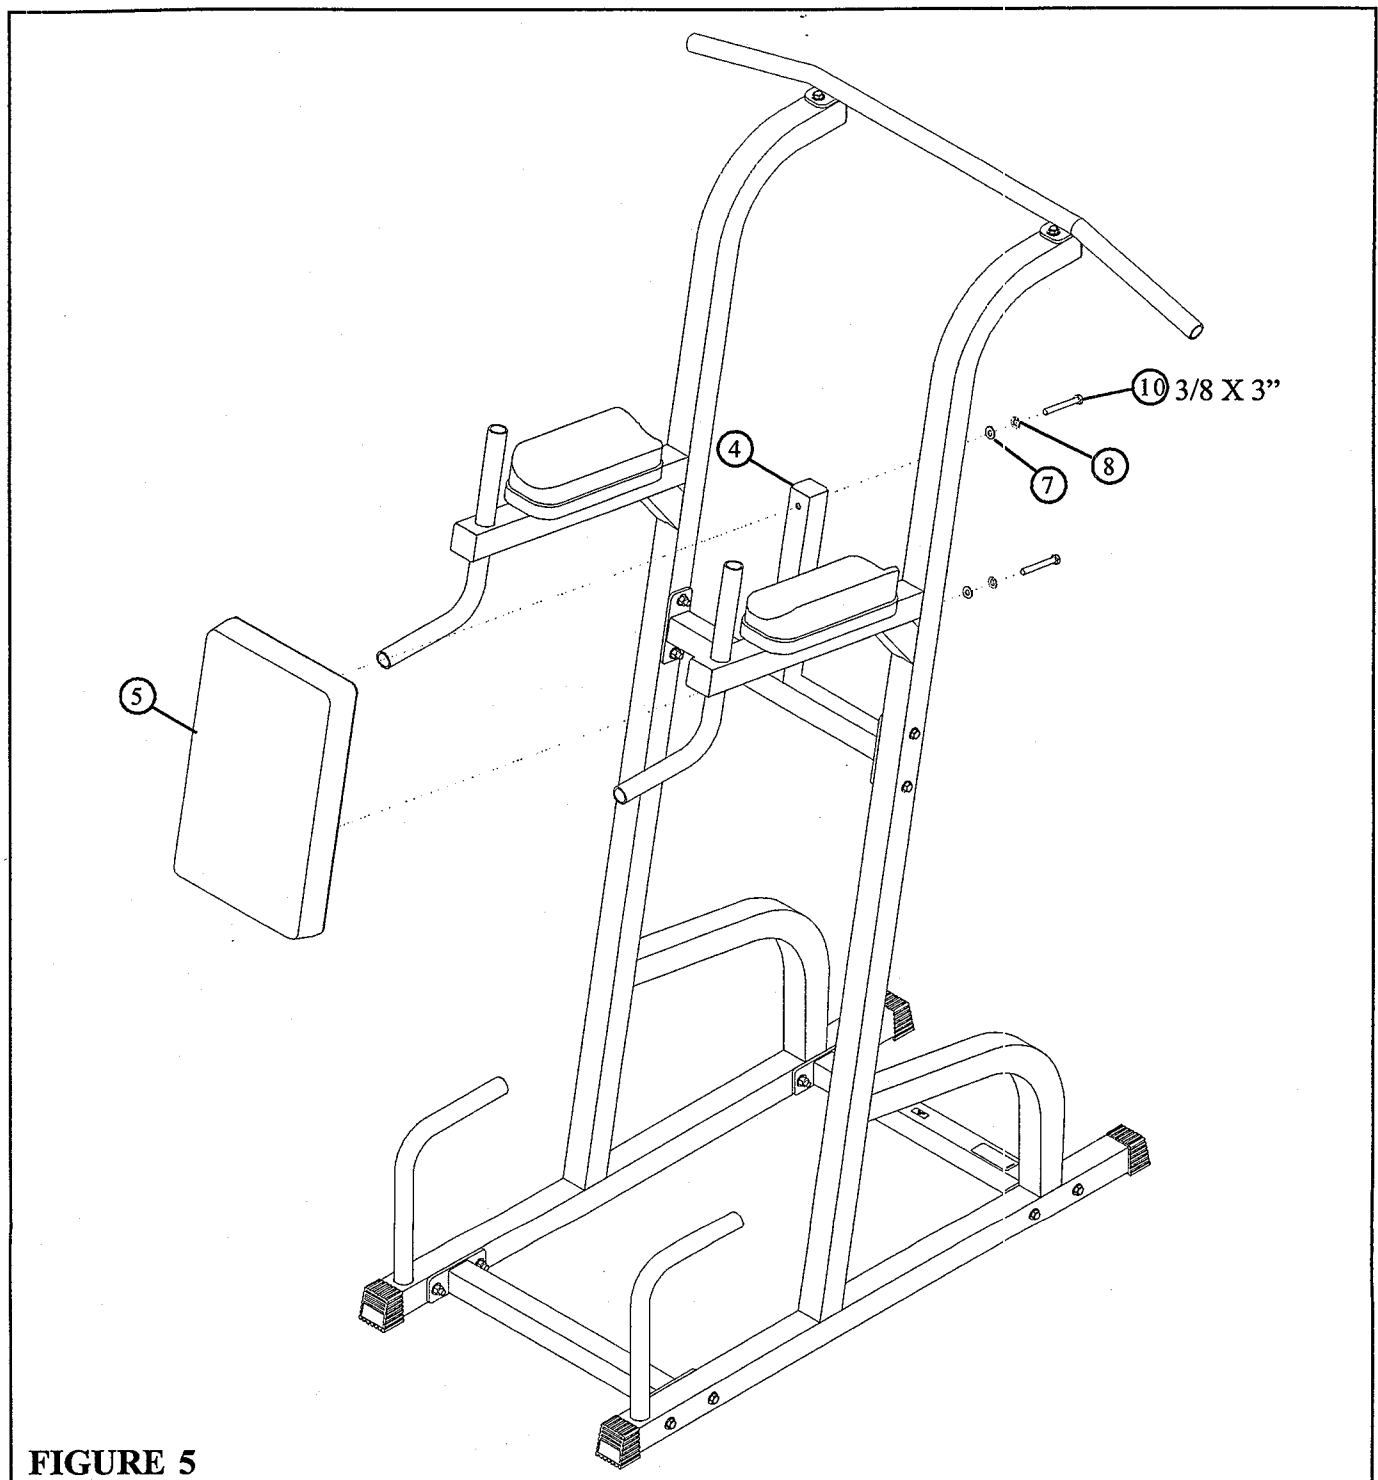

FIGURE 5
- **SECURELY** assemble the BACK PAD (5) to the UPPER BACK SUPPORT (4) using two 3/8 X 3" BOLTS (10), two 3/8" LOCK WASHERS (8), two 3/8" FLAT WASHERS (7) as shown in FIGURE 5.